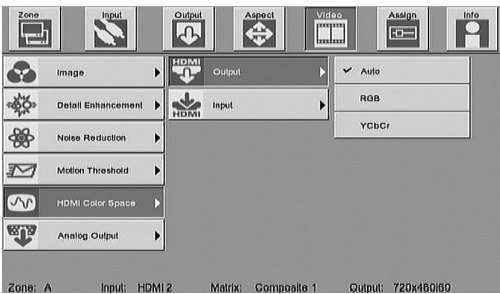

Figure 75
3. Choose either the HDMI Input or Output Icon. Refer to figures 75 and 76.